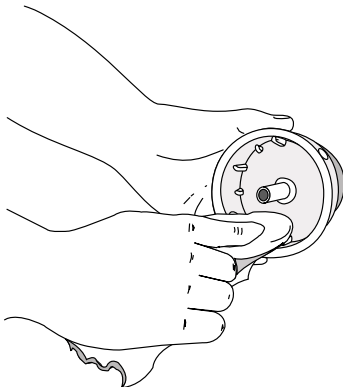

Fig. 12
4. Use a clean cloth to clean the the inner reel, spring, shaft, and inner surface of the outer spool (Fig. 12).